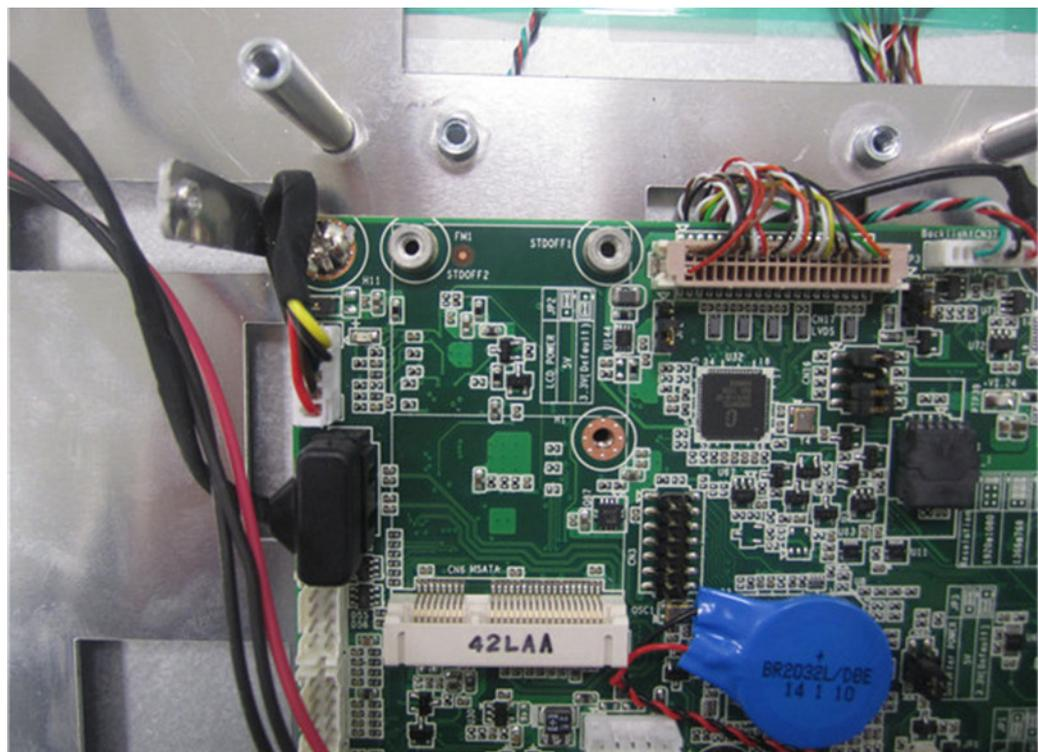

Figure 2.14
1. Follow installation steps 1 ~ 2 in the Section 2.4, and you'll see the disassembled machine as shown in Figure 2.14.